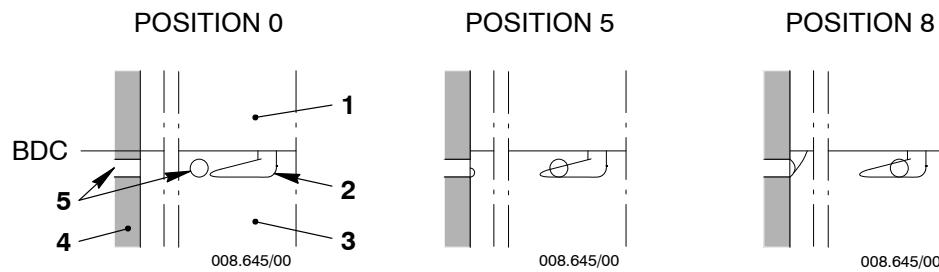

Fig. 3: Control Grooves of Pump Plunger
When the pump plunger passes BDC, fuel flows through the two inlet bores (5, Fig. 3) and the two control grooves (2) into the plunger chamber (1). The quantity of fuel that enters the plunger chamber (1) is related to the control position (between 0 for zero supply and 10 for maximum supply).